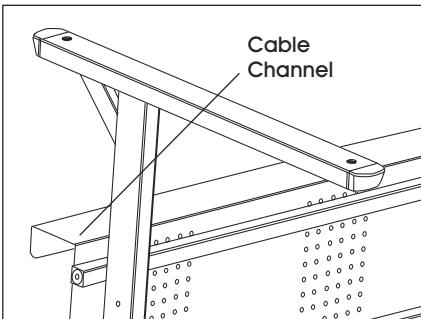

Figure 2
- Using enclosed 4 mm Allen wrench, attach modesty panel to legs with four $1\frac{5}{8}$ " socket screws. Make sure that the cable channel is facing away from the elongated part of the leg as shown. Attach four locking casters to the legs as shown. Tighten with enclosed double sided wrench. (See Figure 2)